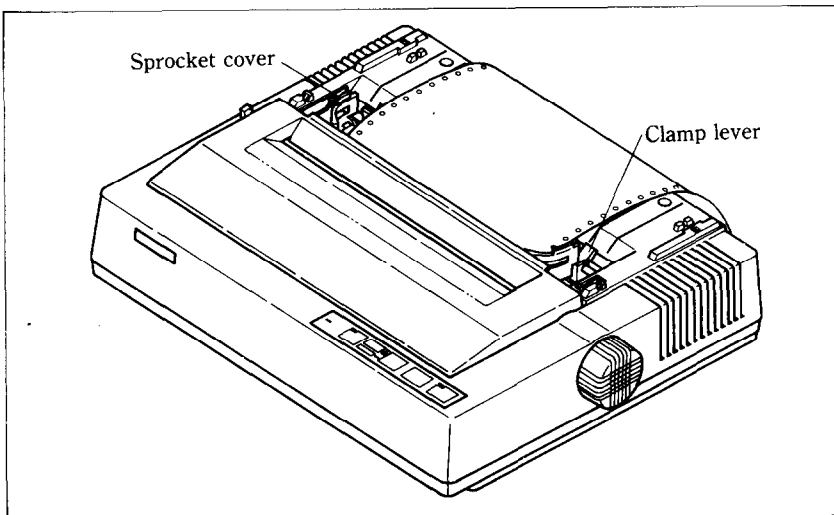

Figure 2-7. Open the sprocket covers to expose the sprocket teeth.
Figure 2-7 shows the tractor unit. Please identify the parts of the tractor.
4. Open the sprocket covers, on the right and left sprocket units, as shown in Figure 2-7.